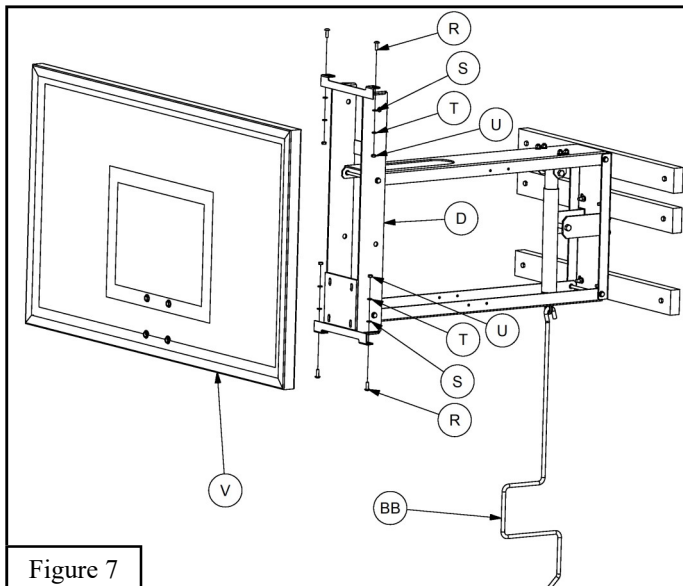

Figure 7
10. Using the *Crank Handle (BB)* lower the *Backboard "H" Frame (D)* to its lowest position. Carefully position the *Backboard (V)* resting on the front of the *Backboard "H" Frame (D)*. Attach the *Backboard (V)* to the *Backboard "H" Frame (D)* using four $5/16"$ x $1"$ *Truss Head Screws (R)*, $5/16"$ *Flat Washers (S)*, $5/16"$ *Lock Washers (T)* and $5/16"$ *Hex Nuts (U)*. Tighten all $5/16"$ fasteners. See Figure 7.